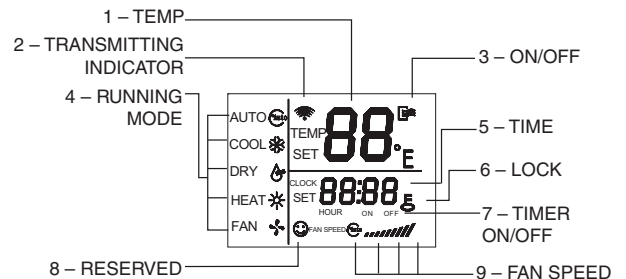

Fig. 1 — Wireless Controller Status Indicators
The wireless controller displays the following status indicators. See Fig. 1 for location of indicators.
- If no receiving sound is heard from the indoor unit, or the transmitting indicator light (see Fig. 1) on the controller does not flash, replace the batteries.